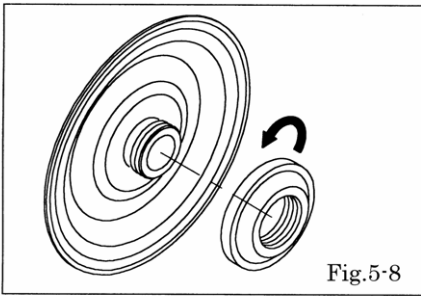

Fig.5-8
- Fix the diaphragm, and turn the bushing to remove it. [Fig.5-8]